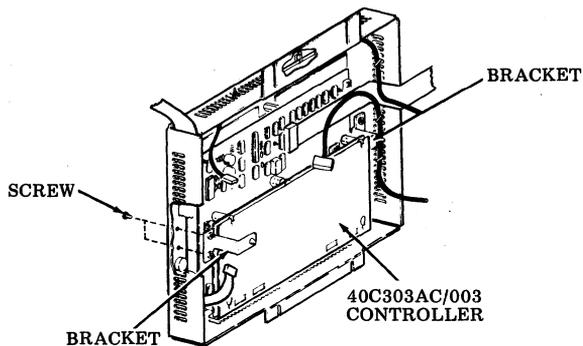

Fig. 31—Assembly of 40C303AC/003 Controller
- (a) Locate 40C303AC/003 controller in controller cover. Remount two brackets; secure brackets with four screws (Fig. 31).